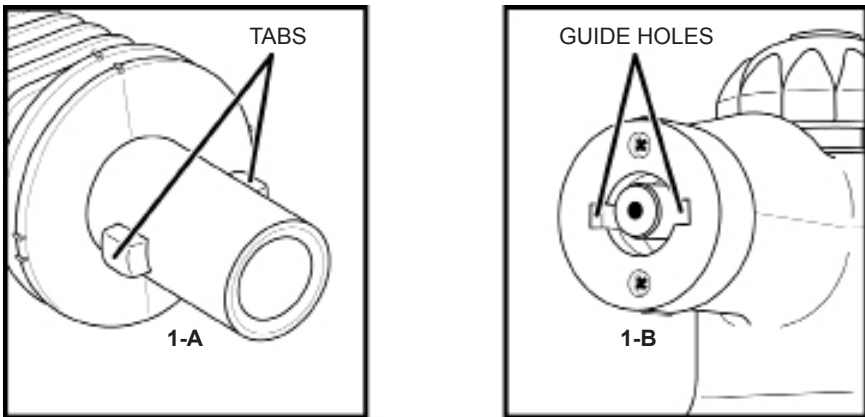

FIGURE 1
1. Insert cylinder on back of Jet Nozzle or Wide Nozzle (FIGURE 1-A) into opening of Steam Aperture (FIGURE 1-B). Align it so that two tabs on sides of cylinder fit into two guide holes on sides of opening, as indicated in FIGURE 1. Be sure to push accessory in as far as possible.